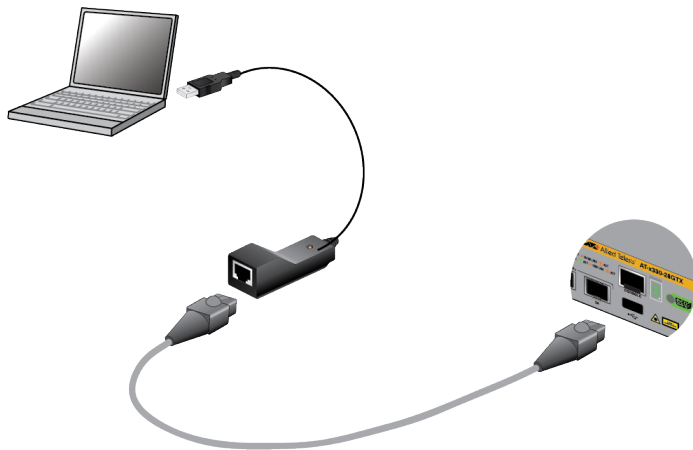

Figure 47. , VT-Kit3 Management Cable with Workstation and Switch
- ❑ If your computer has a USB port, use a USB-to-Serial converter. To use the VT-Kit3 from Allied Telesis, connect the USB connector on the VT-Kit3 to a USB port on your computer or terminal. To connect the kit to the Console port on the switch, use a standard, straight-through Ethernet cable. Refer to Figure 47.